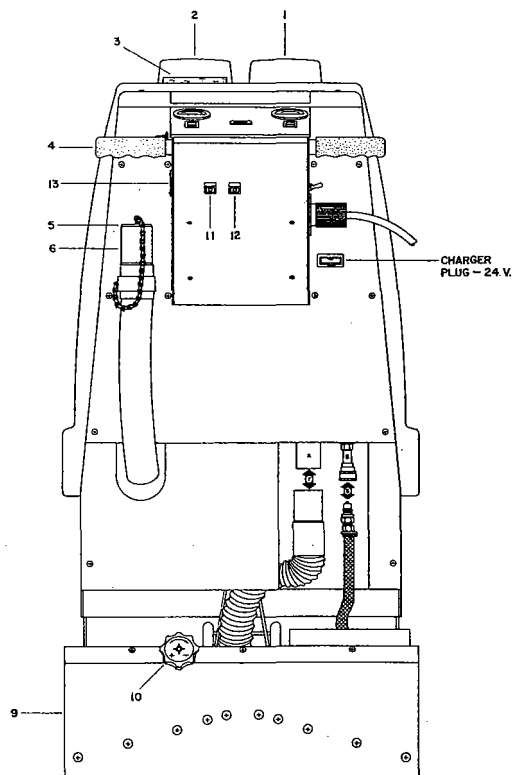

FIG. 2
9. Brush Pressure Gauge: Adjust brush pressure until gauge indicator reads into center green zone. Refer to Page 4, Figure 2, Item 10 for adjustments.
7. Adjust scrub head assembly, Figure 2, Item 10, Page 4, until brush pressure gauge indicator reads in green zone.
Transport machine to proper drain site. Lower drain hose, Figure 2, Item 6, grasping hose cuff and plug, then lowering to drain. Remove drain plug, Item 5, to empty.
2. Disconnect vac hose, Figure 2, Item 7 and attach vacuum hose from remote tool to tube A.
3. Disconnect solution hose, Figure 2, Item 8 and install remote tool solution hose to quick disconnect "B" turn pump solution switch, Figure 1, Item 5, to auxiliary.
4. If electric power head is used, attach power cable to Item 13, Figure 2, electrical outlet.